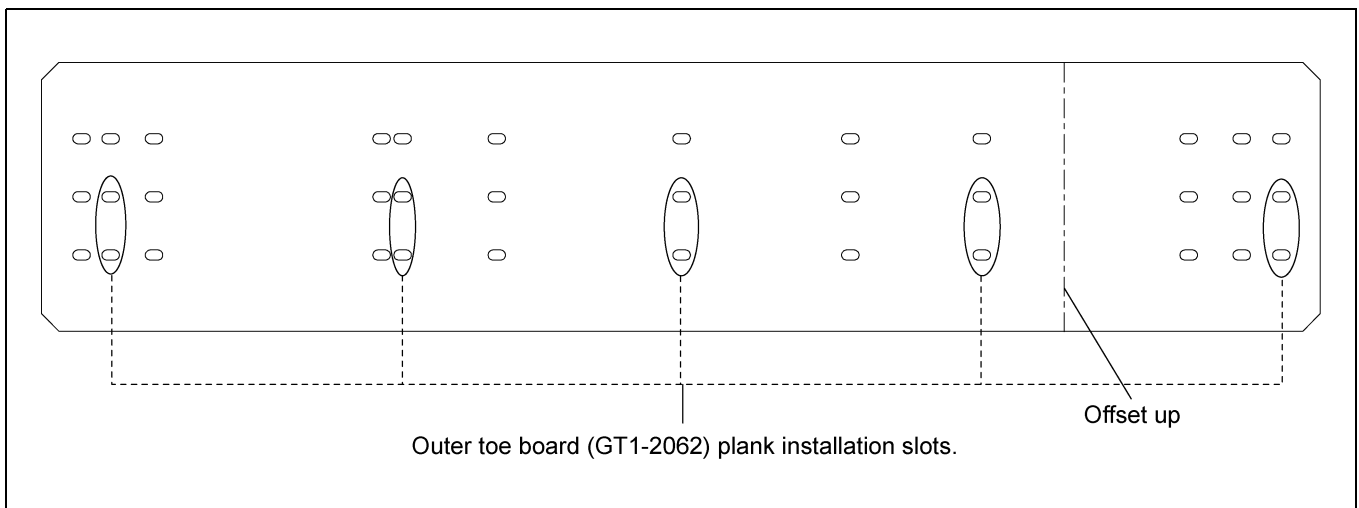

Figure 5H 24' Outer Toe Board (GT1-2062)
3. Outer toe board (GT1-2062) is arranged with many slots to install plank. Install planks to corresponding slots as shown in Figure 5H.